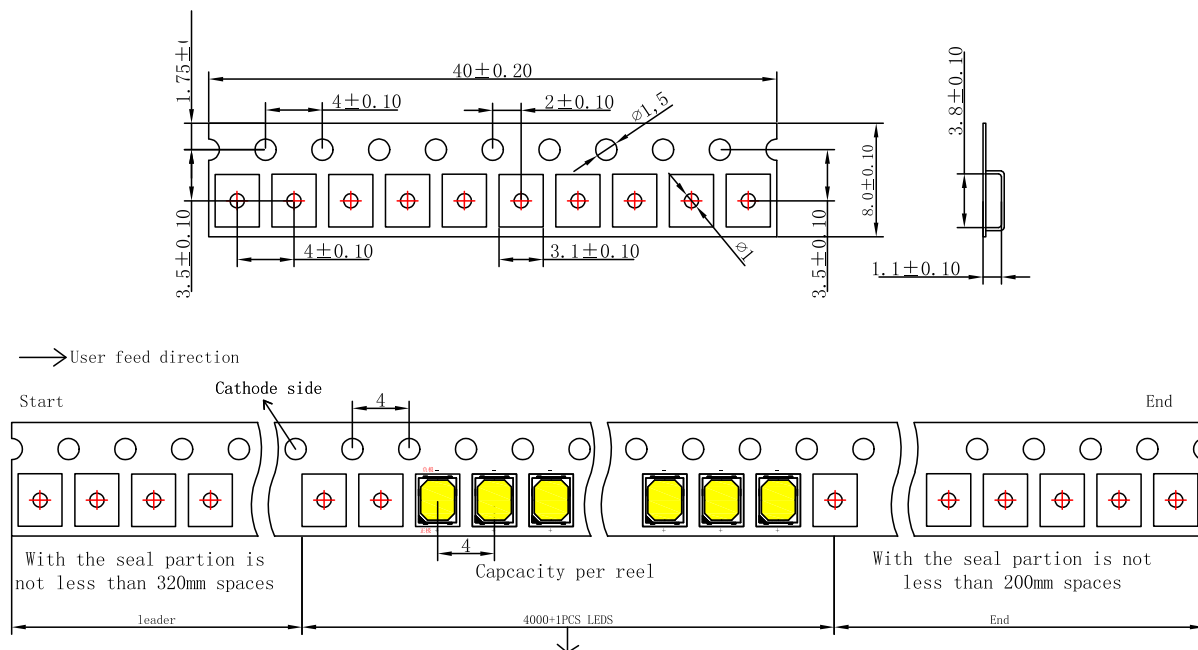

Figure 19. Pocket Tape dimensions for LUXEON 2835 Color Line.
Notes for Figure 19:
- Notes for Figure 19: